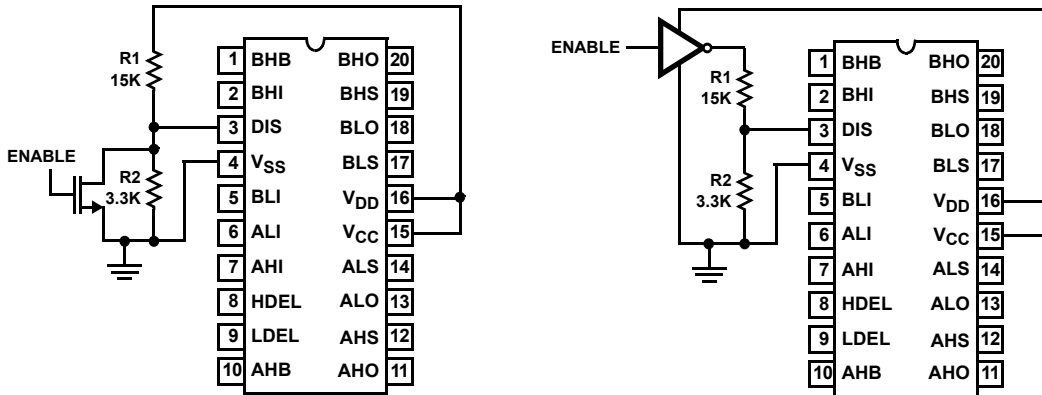

FIGURE 1.
The HIP4081 has four inputs, one for each output. Outputs ALO and BLO are directly controlled by input ALI and BLI. By holding ALI and BLI low during start-up no shoot-through conditions can occur. To set the latches to the upper drivers such that the driver outputs, AHO and BHO, are off, the DIS pin must be toggled from low to high after power is applied. This is accomplished with a simple resistor divider, as shown below in Figure 1. As the  $V_{DD}/V_{CC}$  supply ramps from zero up, the DIS voltage is below its input threshold of 1.7V due to the R1/R2 resistor divider. When  $V_{DD}/V_{CC}$  exceeds approximately 9V to 10V, DIS becomes greater than the input threshold and the chip disables all outputs. It is critical that ALI and BLI be held low prior to DIS reaching its threshold
**TIMING DIAGRAM FOR FIGURE 1.**